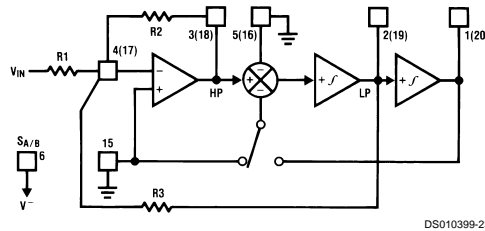

FIGURE 14. MODE 6a
**MODE 6a: Single Pole, HP, LP Filter** (See Figure 14)